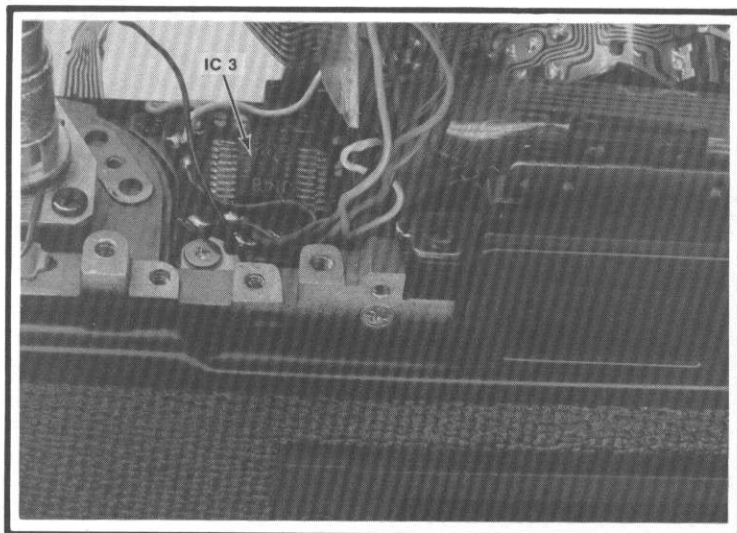

Figure 40
10. Remove the 3 screws holding the piezo beeper. The long screw goes to the front of the camera. You can now see the LED display board with IC3, Fig. 40.